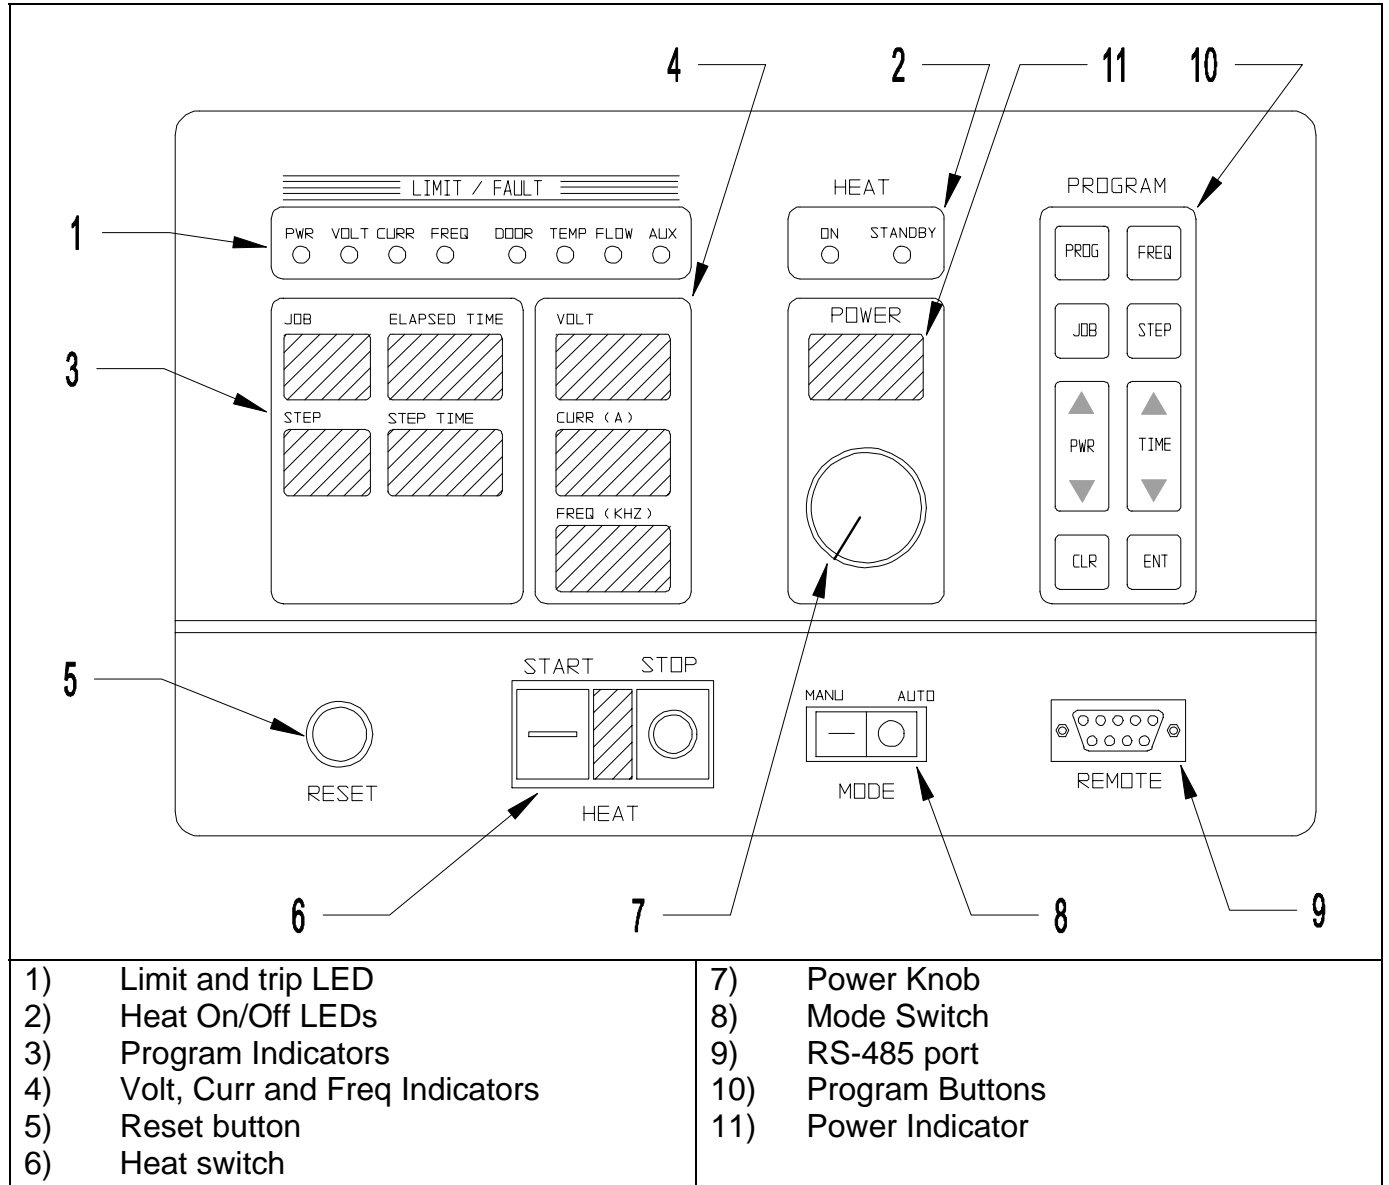

Figure 2: Front panel layout.
Identified by ① in Figure 2 on page 9.
These LEDs show whether the power supply is generating output or is off. (identified by ② in Figure 2 on page 9).
Identified by ③ in Figure 2 on page 9. These read-outs display the programs status when using the AUTO mode. The STEP TIME indicator display minutes and the TOTAL TIME indicator displays seconds during manual mode operation.
Identified by ④ in Figure 2 on page 9. These read-outs display the output voltage, the inverter current and the operating frequency when the power supply is operating.
Identified by ⑤ in Figure 2 on page 9. This button is used to clear the fault indicators if a run-time or interlock trip has occurred. Depressing the button will light the limit and trip indicators and clear the latch for the fault indicator. If the LED does not go out, then the reason for the fault is still present.
Identified by ⑥ Figure 2 on page 9. When the power supply is energized, and no fault indicators are lit, pressing the ON (-) button will start the power supply delivering heat. When moved back to the STOP (O) position, the heating will be terminated. While in AUTO mode, the ON position initiates the heat cycle. Pressing the STOP button will terminate the heat cycle.
Identified by ⑦ in Figure 2 on page 9. The power pot sets the requested power level as indicated by the POWER read-out. The level of power feedback is indicated by the percentage on the LED display above the POWER POT. This pot is disabled during AUTO mode operation.
Identified by ⑧ in Figure 2 on page 9. In the manual position, MAN, the power supply turns on with the HEAT switch and power level is controlled by the POWER POT. The programming the AUTO mode is done with the MODE switch in the MAN position. In the automatic position, AUTO, the power supply runs programmed jobs. The heat cycle is initiated with the HEAT switch and the power levels and duration of the cycle are controlled automatically, as programmed.
Identified by ⑩ in Figure 2 on page 9. The program buttons are used to program and display jobs for the power supply to run automatically. See section 5 on page 13 for a description of how to program the power supply.
Identified by (11) in Figure 2 on page 9. This read-out displays the demand power when the unit is in standby or program mode, and displays the power output when the heat cycle is in progress.